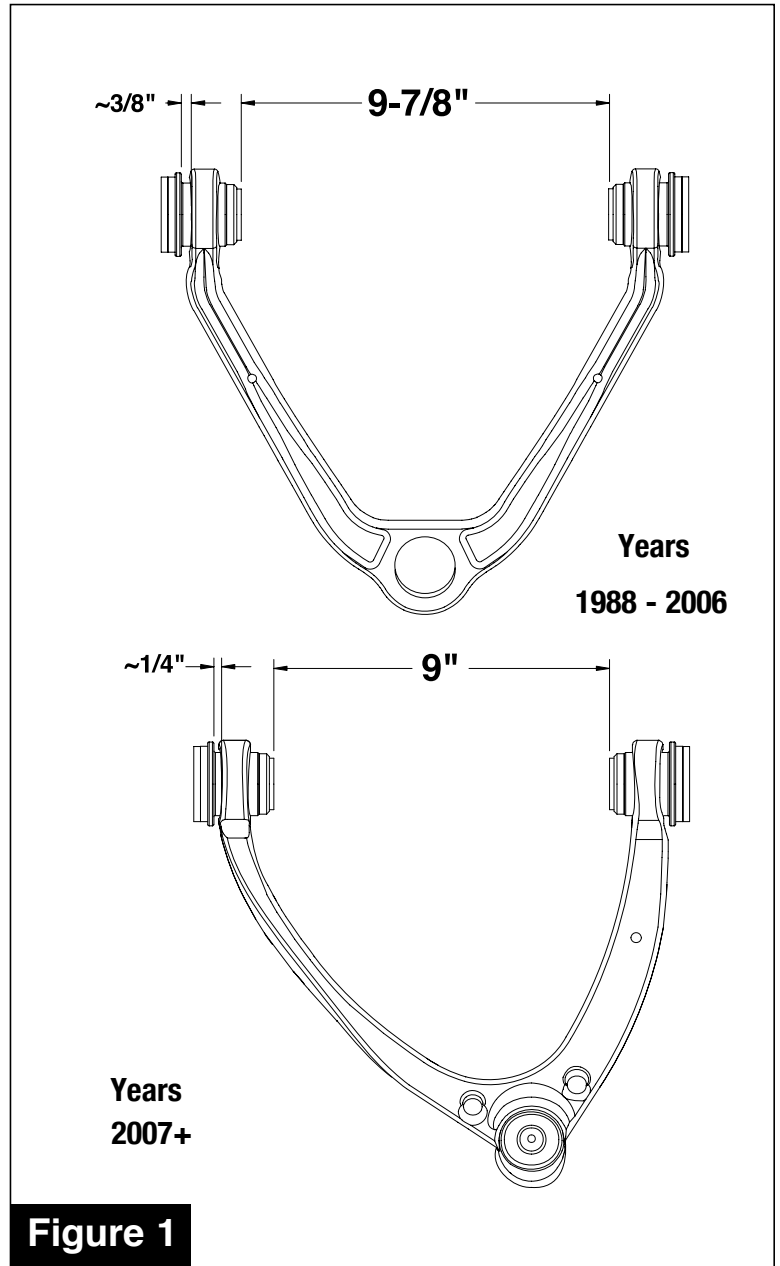

Figure 1
6. Press both bushings in to achieve dimensions shown in **Figure 1**.